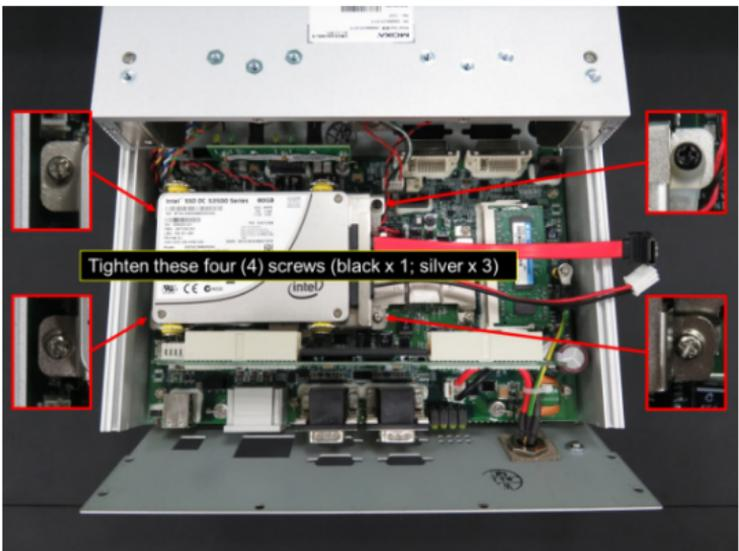

Figure 29
- 4.3.4 Use a Phillips screwdriver to tighten the four (4) screws to fix the SSD/HDD assembly to the board as shown in Figure 29.